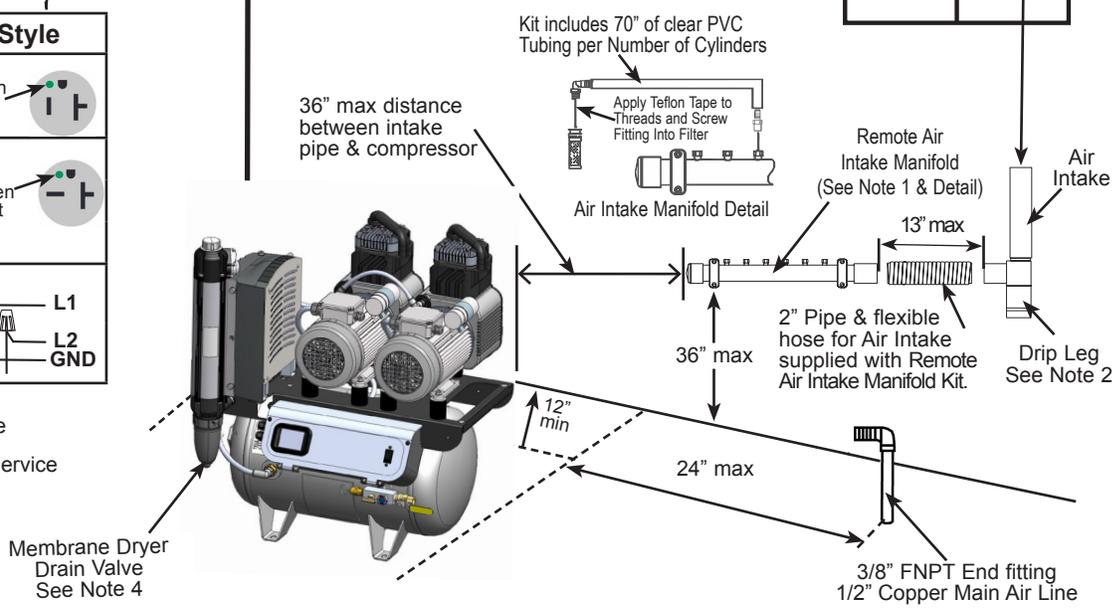
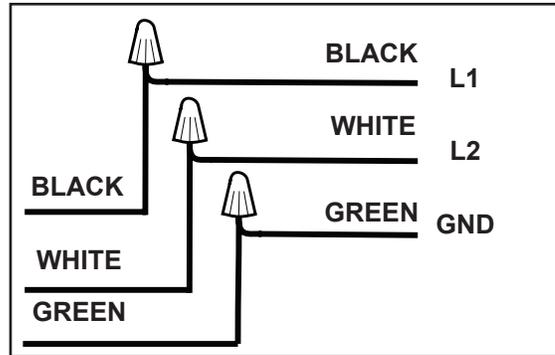

Figure 2. Overall Site Requirements
Figure 3. Electrical Connection Box
- **EQUIPMENT GROUNDING:** All **AirStar NEOs** must be connected to a grounded metal, permanent wiring system, or an equipment grounding conductor must be run with the circuit conductors and connected to the equipment grounding lead in the **AirStar NEO's** flexible metal conduit power supply. Failure to do so can result in fire, electric shock, injury, or death. See Figure 2, Overall Site Requirements, page 7.
- **ELECTRICAL POWER CONNECTION:** AS10NEO, AS21NEO, AS22NEO, AS30NEO and AS40NEO systems are supplied with a connected line cord. AS50NEO and AS70NEO systems are shipped with open electrical connections. Systems supplied with a line cord must be plugged into a hospital grade electrical outlet. See Figure 2 for receptacle requirements. Systems with open electrical connections are directly connected to the branch supply circuit as shown by Figure 3. See Site Electrical Requirements, page 6, for the required branch circuit size for each system.